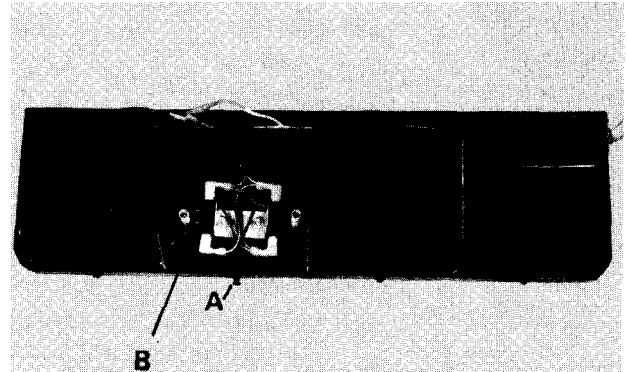

Fig. 25
- 3) Remove defective switch from bracket by removing the (2) mounting screws and nuts, Item B, Fig. 25.
- 4) Place new switch in position on bracket, align holes, and install (2) each of #3-48 x 1/2" machine screws, #3 shakeproof internal lockwashers, and #3-48 hex nut, Item B, Fig. 25.
- 6) Place foot pedal cover in position, align holes, and install (1) #10-32 x 1/2" machine screw and
- (1) #10 shakeproof internal lockwasher, Item A, Fig. 25.
- 7) Place cover on footswitch, align holes, and install (2) #10-32 x 3/8" machine screws, one on each end of footswitch, and (3) #10-24 x 3/8" self-tapping screws along the back of the footswitch.